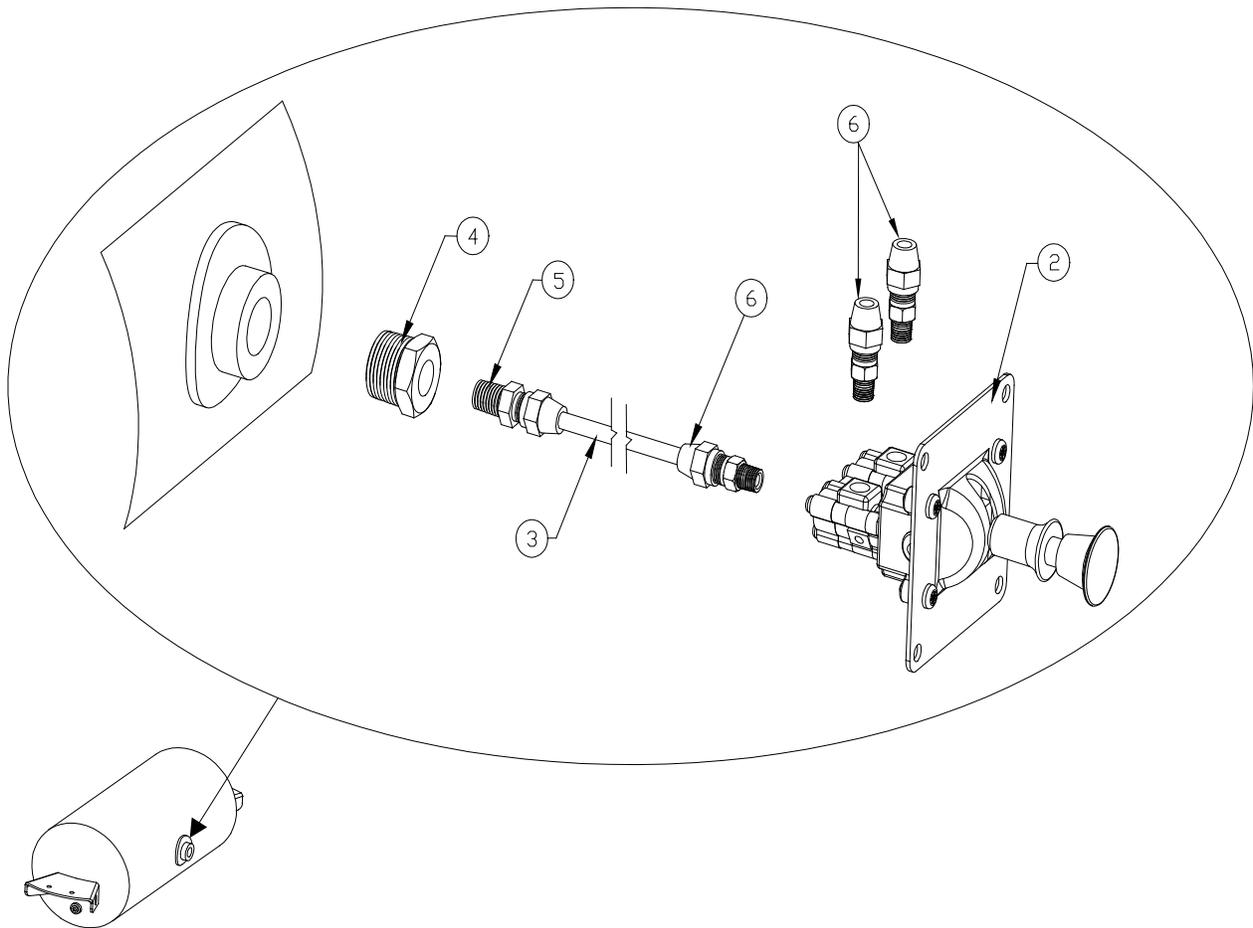
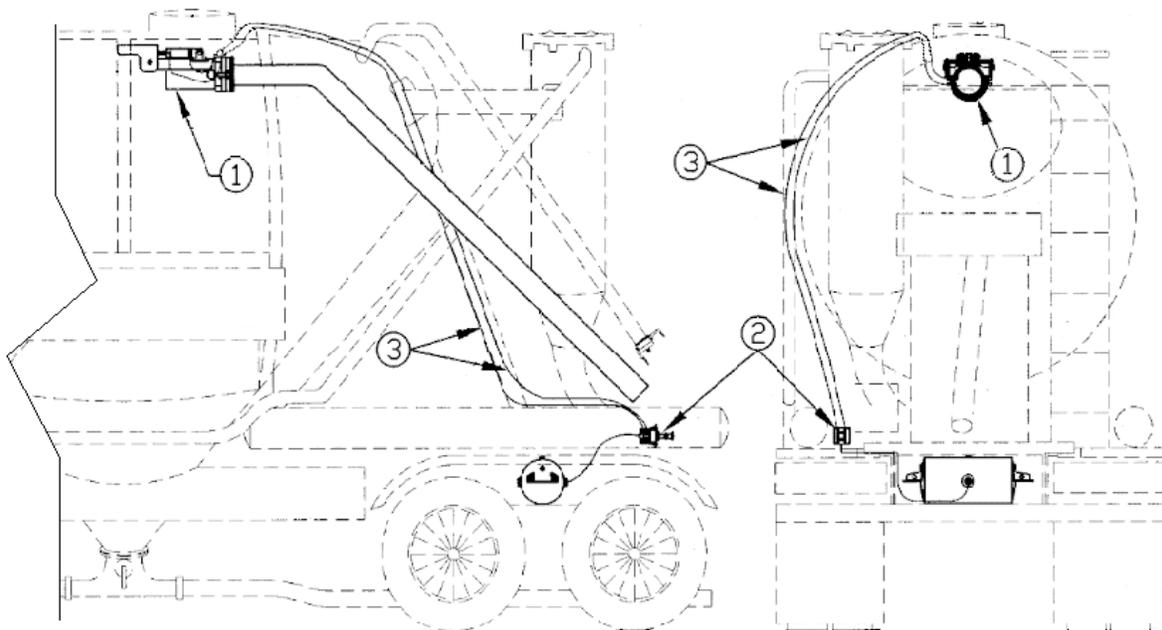

Figure 1
Figure 3
2. Remove the reserve plug from the air tank. Insert the hex busing [#4, Figure 1] into the air tank and tighten. Insert the 1/4" male NPT x 1/4" compression tube fitting [#5, Figure 1] into the hex bushing. Attach 1/4" nylon tubing [#3, Figure 1] into the compression fitting [#5, Figure 1] and tighten.
5. Insert the all three 1/8" male NPT x 1/4" compression tube fittings [#6, Figure 1] into the 3 way switch [#2, Figures 1] and tighten. Then insert the 1/4" tubing from the air tank into the compression tube fitting.
11. Using the best possible route to the 3 way air switch, secure the air tubing to the exterior of the trailer using cable ties. [Figure 3]. Cut and secure tubing to the two remaining male fitting 1/8" male NPT x 1/4" compression tube fittings [#6, Figure 1].